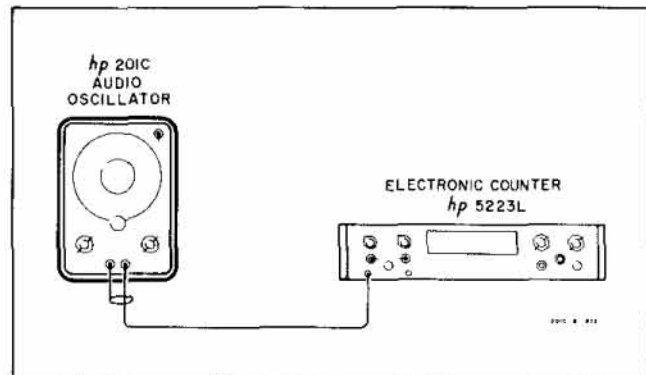

Figure 5-1. Calibration Accuracy Check
- Connect test setup as shown in Figure 5-1.